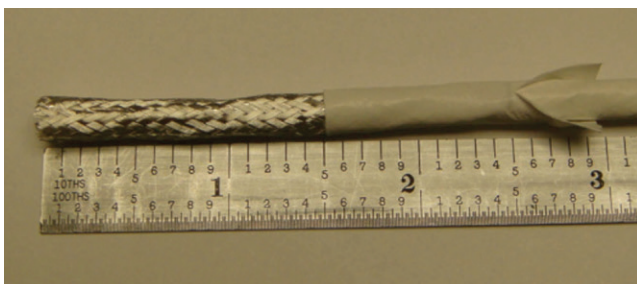

Figure 28: Exposing the braid
4. Using needle-nose pliers, gently pull the outer jacket down the cable until you have exposed approximately 1.5 inches of braid (Figure 28).